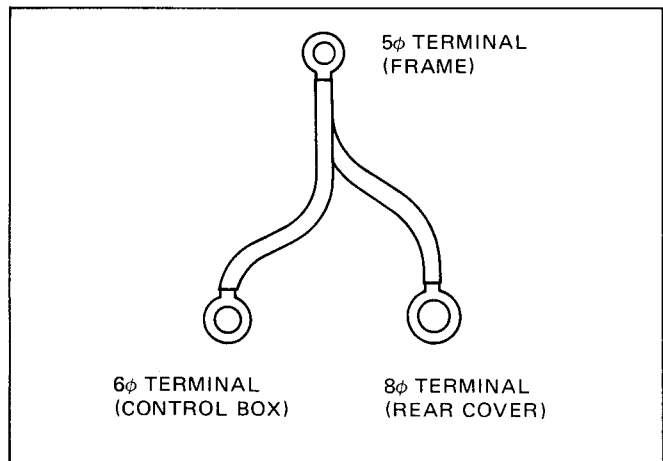

Fig. 10-33
(2) Attach the 5φ terminal of grounding wires (green/yellow) to the unpainted thread hole of the frame base plate using a 5 mm brass screw. (See Fig. 10-33.)